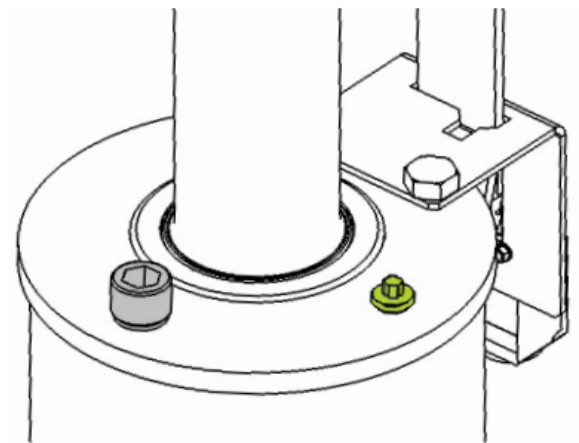

Figure 7
1. Unscrew the airscrew, remove from the buffer and keep safe (GREEN in Figure 7).
2. Unscrew the dipstick, remove from the buffer and keep safe. (GREY in Figure 7)
2. Remove the dipstick, from the buffer and keep safe. (GREY in Figure 7)
1. Unscrew the dipstick and remove from the buffer. (GREY in Figure 7).